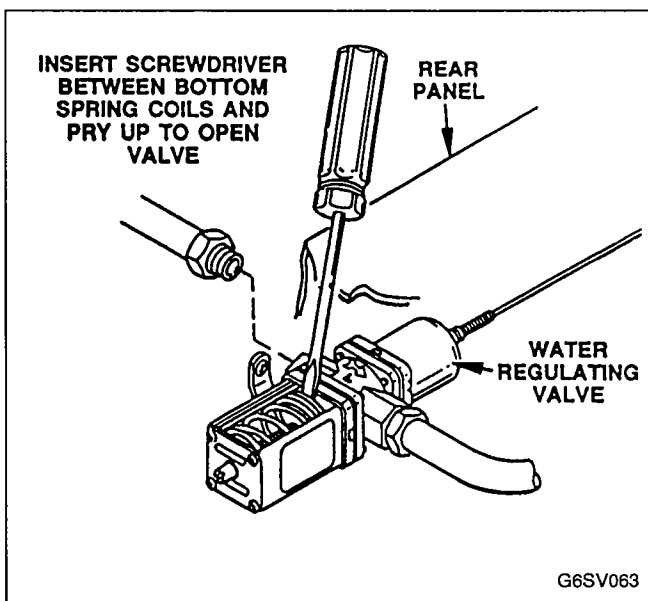

FIGURE 68. MANUALLY OPENING WATER REGULATING VALVE
- a. Pry open water regulating valve by inserting large standard screwdriver between bottom spring coils of valve. Pry spring upward to open valve, Figure 68.